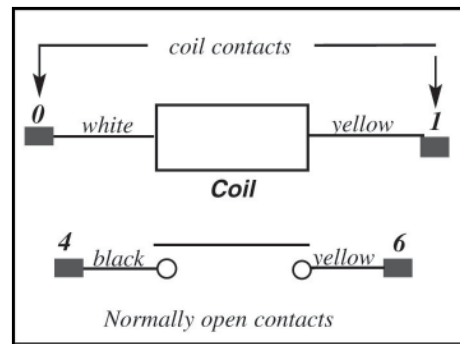

Figure 12. Relay Wiring Diagram for freezers.
B. Cut the black wire that travels from junction block to interior of cabinet. Black loose wire terminal #4 connects to both ends of cut black wire. (See figure 12 & 13).